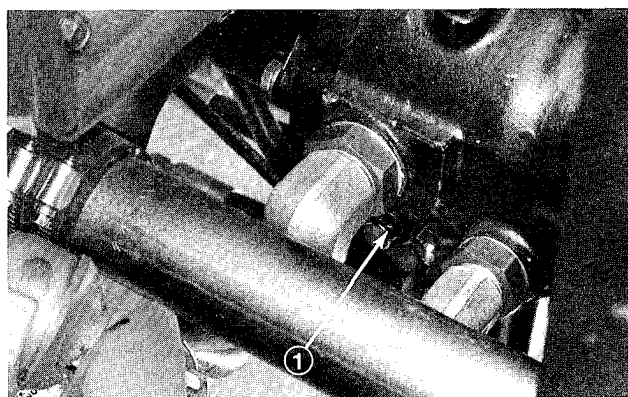

Figure 29
1. By-pass valve is located in left side of variable displacement pump (Fig. 29). Rotate the valve 1/2 to 1 turn counter-clockwise to open and allow oil to by-pass internally. Because fluid is by-passed, the machine can be moved - slowly - without damaging the transmission.